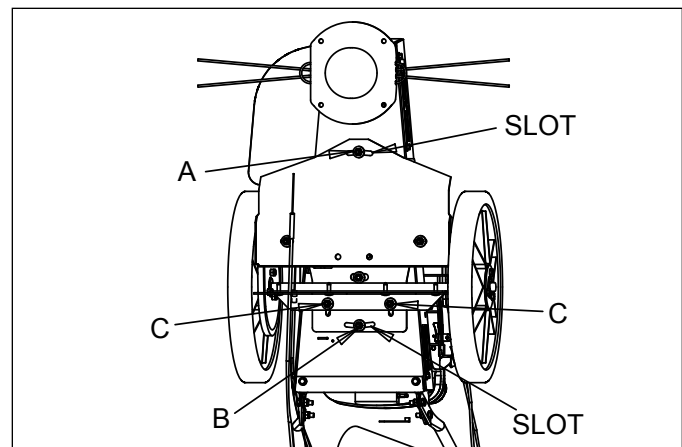

Figure 4.2 - Adjusting the Mower
1. Loosen the two nuts on the bottom of the trimmer as shown in Figure 4.2; the first (A) is located behind the trimmer spindle, while the other (B) is located behind the trimmer flap on the transmission support plate. Do not adjust parallel trimming with the trimmer axle. This will cause the drive chains to fall out of adjustment.
1. Loosen the two 5/16" nuts (C) (Figure 4.2) located under the trimmer axle.